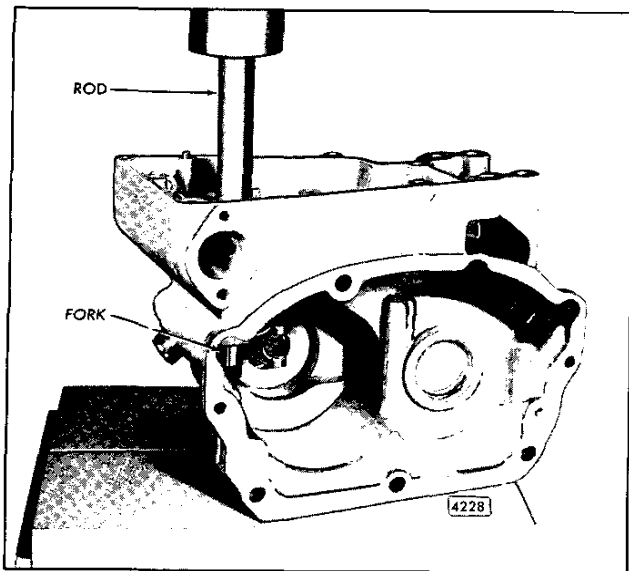

Fig. 10 - Installing Governor Operating Shaft Fork Operating Shaft and Bearing Assembly Using Tools J 21995-1 and J 21995-2
- e. Support the housing, lever, shaft, fork and installer, right side up, on the bed of an arbor press as shown in Fig. 10, with the end of the installer pin resting on the bed of the press and the disc centered under the bottom of the operating fork. Then place a short rod on the top end of the operating shaft and press the shaft into the fork until the fork is flush with the end of the shaft. Remove the fork installer disc and rod from the housing.